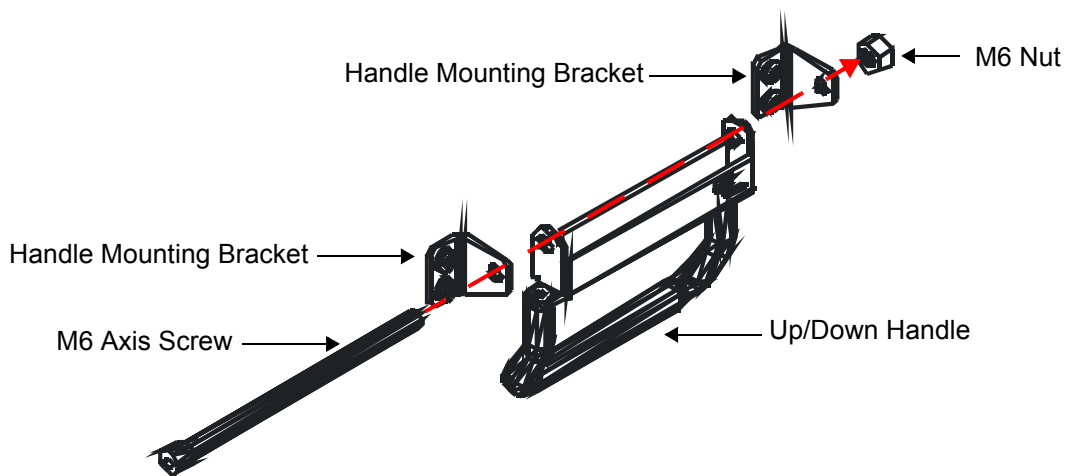

Figure 8-93 Fixing the Up/Down Handle to the Handle Mounting Brackets
- 6.) Loosen and remove the M6 nut from the handle assembly axis screw - refer to Figure 8-93 on page 8-108.
- 1) Insert the M6 Axis screw through the screw hole in the first handle mounting bracket, through the two holes in the new metal Up/Down handle, then through the screw hole in the second bracket and into M6 nut, as shown in Figure 8-93 below.